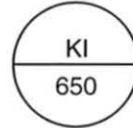

Figure 58. Instrument Tag
15. Determine the measured variable indicated in the instrument tag in figure 58.